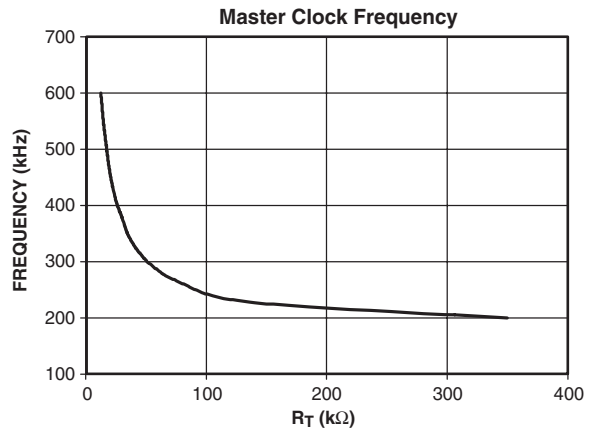

Figure 18. R_T vs. Frequency
The clock frequency on the oscillator is set using an external resistor, connected between R(T) pin and ground. The frequency follows the graph, as shown in Figure 18. The minimum clock frequency is 200KHz, which is when R(T) pin is left open. Select the value of R(T) as shown in the equation below. This equation is valid for all $F_{OSC} > 200\text{kHz}$.